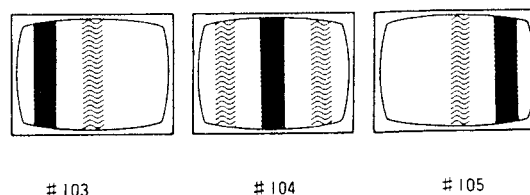

Fig. 10-2-10 Stripes arising due to crosstalk interference.
- ④ Search out frames #104 and #18914. Make sure that crosstalk is set at minimum for the both frames.
- ⑤ Fasten the stopper screw of the pick-up Assembly.
- ⑥ Make sure that crosstalk does not exist at frame #104. If crosstalk exists here, repeat the procedures given in 10.2.7.
- ① Search out frame #104.
- ② Adjust VR2 so that the stripes appearing on the sides of the monitor display caused by crosstalk interference are set at minimum. (Refer to Fig. 10-2-10)